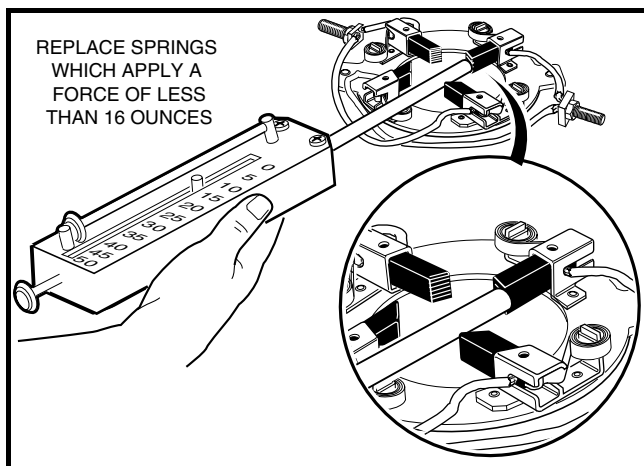

Figure 15-9 Check Brush Springs
3. Inspect the brush springs (14). Replace springs that are discolored from heat (light gold or blue tinted). Replace springs which apply a force of less than 16 oz. (**Figure 15-9, Page 15-8**).